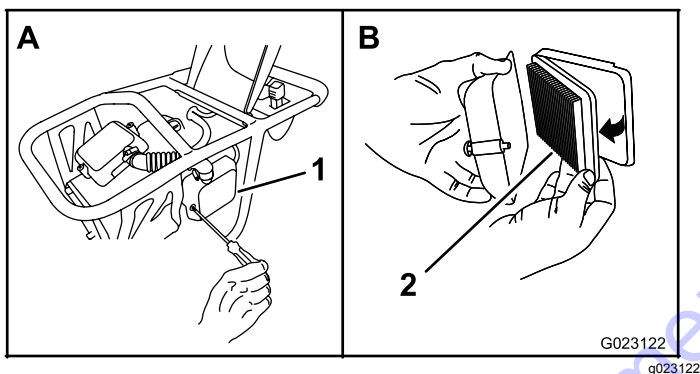

Figure 15
1. Remove the screws that secure the cover to the air-filter housing (Figure 15)